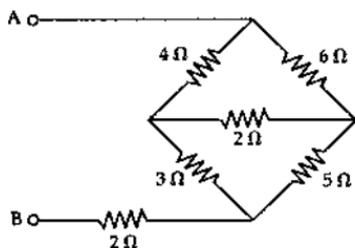

Fig. 4.0
- (d) Find the resistance between A B of the circuit shown in Fig. 4.0 use Y-Δ (star-delta) transformation.